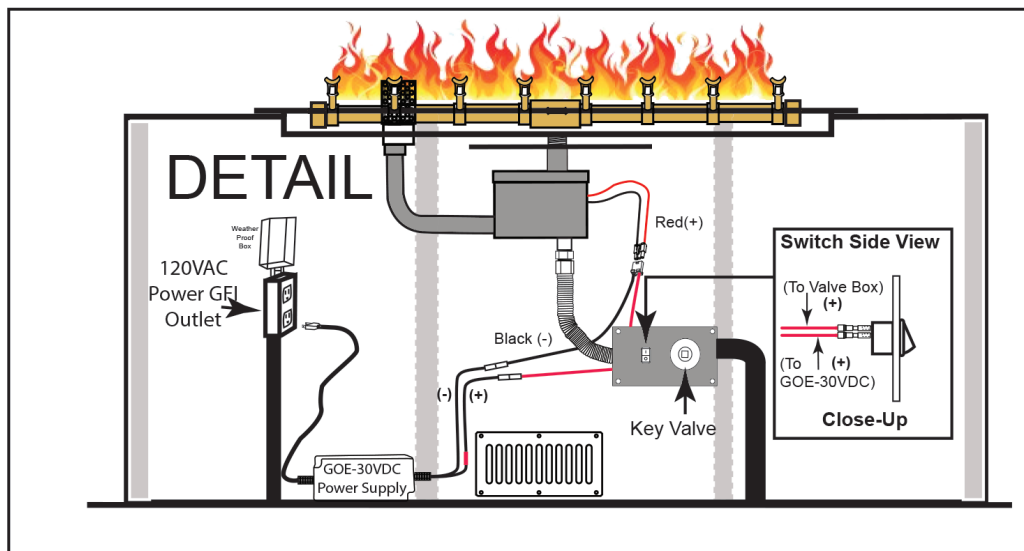

Fig. 4 Example of a single fire feature install with power supply and switch contained within the enclosure, when applicable.
4. The primary gas shut-off, (not supplied) will require a ½" male flared fitting to enable connection of the stainless steel flex gas line, (not supplied) with the fire feature (see Fig. 4 page 8).
5. Do not place an LP tank inside any fire pit enclosure. Locate all Liquid Propane (LP) tanks outside the enclosure.
The GOE-30VDC power supply is to be installed inside the enclosure due to the wire length limitations. The power cord is 3-feet long the 30VDC leads to the valve are 3-feet long. See Fig. 4.
The control panel mounting plate is pre-assembled at the factory with the key valve and ignition switch. On the back of this manual is a template for use to cut an opening for the mounting plate. Once you have determined the location of control panel mounting plate, install the gas connections and Piezo wires as shown in Fig. 4, page 8 and secure all connections.